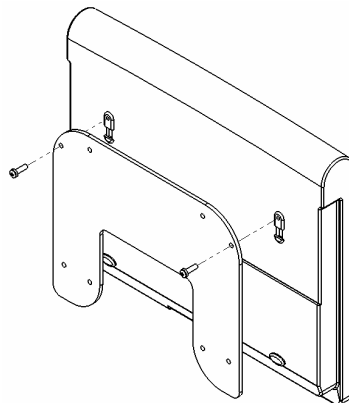

Fig.1
BEFORE PROCEEDING: Unpack the carton, verify contents shown in Figure 1 and read installation instructions completely. If you are missing any of the listed components, please contact Customer Service at 1-800-582-6480.
1. **Attaching bracket to Screen:** Remove flip out table stand (if attached) by removing the two Phillips head screws. Attach the adapter bracket to the screen using the provided M3 x 8 Phillips head screws (Fig.1).